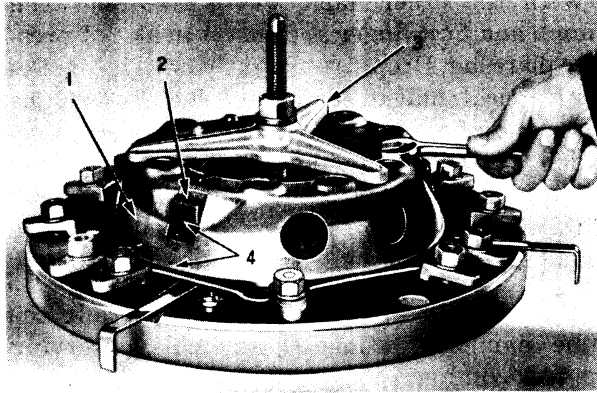

Fig. 4—Clutch Cover and Pressure Plate Assembly in Fixture
- (1) Mark the cover and pressure plate with a prick punch, as shown in Figure 4, so that they may be assembled in their original position to maintain balance.
- (2) Mount the clutch assembly on compressing fixture, Tool C-585, as shown in Figure 4.
- (3) Install the three-legged spider over the center screw, so that it rests directly on top of the clutch cover.
- (4) Install the thrust washer and compression nut. Compress assembly by tightening the compression nut.
- (5) With the assembly under pressure, remove the clutch release lever eyebolt nuts. Release the pressure by unscrewing the compression nut slowly, in order to prevent the springs from flying out.
- (6) The cover can now be lifted off exposing all parts for cleaning and inspection.